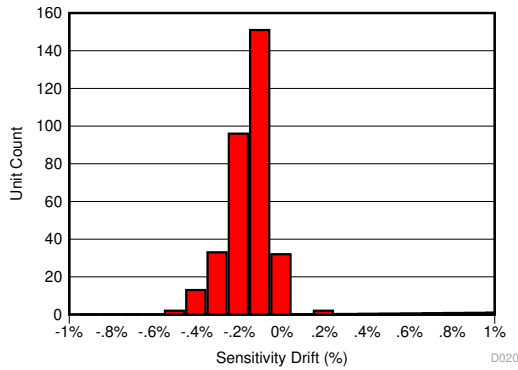
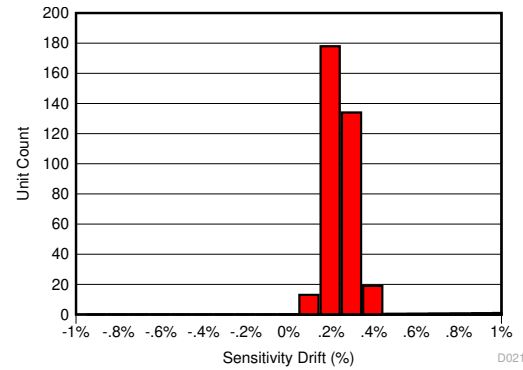

Figure 8-6. Sensitivity Error After 130°C, 85% RH HAST
Figure 8-7. Sensitivity Error Drift After AEC-Q100 High Temperature Operating Life Stress Test
The same compensation techniques used in the TMCS1101 to reduce temperature drift also greatly reduce lifetime drift due to aging, stress, and environmental conditions. Typical magnetic sensors suffer from up to 2% to 3% of sensitivity drift due to aging at high operating temperatures. The TMCS1101 has greatly improved lifetime drift, as defined in the Electrical Characteristics for total sensitivity error measured after the worst case stress test during a three lot AEC-Q100 qualification. All other stress tests prescribed by an AEC-Q100 qualification caused lower than the specified sensitivity error, and are within the bounds specified within the Electrical Characteristics table. Figure 8-6 shows the total sensitivity error after the worst-case stress test, a Highly Accelerated Stress Test (HAST) at 130°C and 85% relative humidity (RH), while Figure 8-7 and Figure 8-8 show the sensitivity and offset error drift after a 1000 hour, 125°C high temperature operating life stress test as specified by AEC-Q100. This test mimics typical device lifetime operation, and shows the likely device performance variation due to aging is vastly improved compared to typical magnetic sensors.